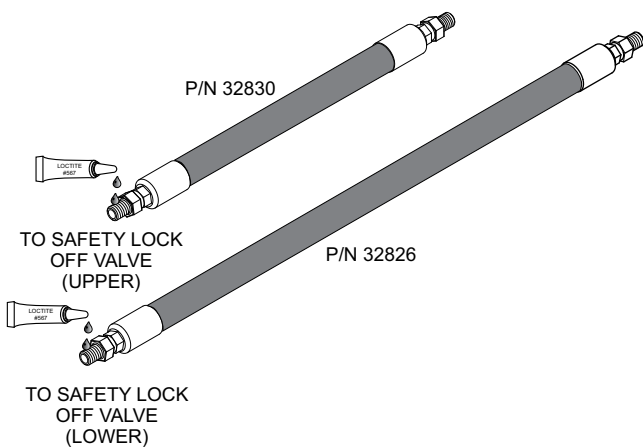

Figure 23. Applying Loctite® 567™ (Safety Lock Off Valve Side)
22. Apply Loctite® 567™ to the threads (safety lock end) on the new upper hose (P/N 32830) and new lower hose (P/N 32826). Reference Figure 23.